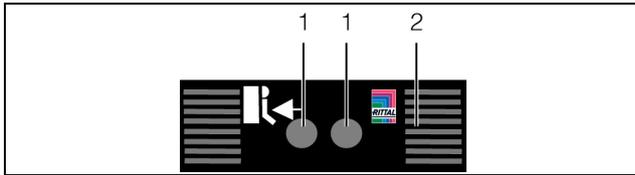
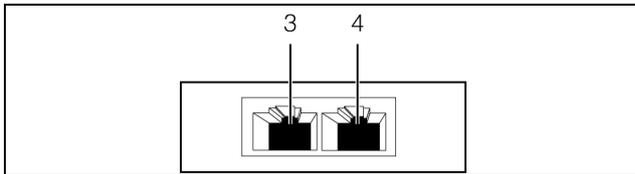

Fig. 8: Front of the access sensor
Fig. 9: Rear of the access sensor
A multi-LED for the status display is integrated into the front of the access sensor (fig. 8, item 2). Further LEDs are located at the rear on the CAN bus connection (fig. 9, item 3 and item 4).